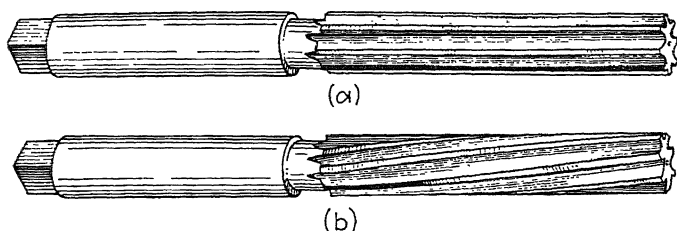

FIG. 135.—Hand reamers. (a) Regular; (b) with spiral teeth.
**145. Hand Reamers** (Fig. 135).—Where a particularly accurate hole is required it is first drilled or bored or machine reamed to about 0.005 in. undersize and then hand reamed.